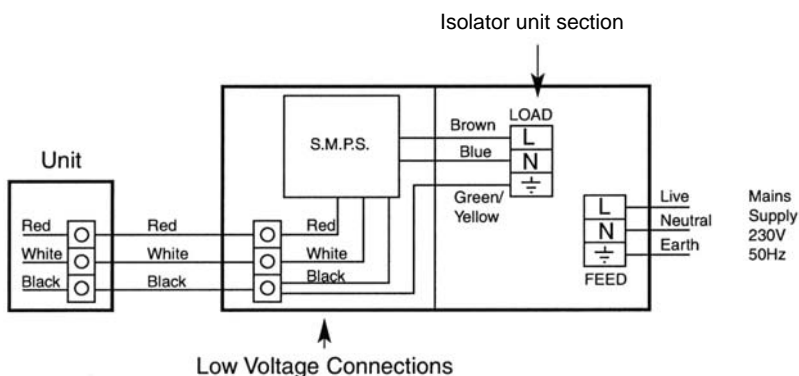

Fig.7
5. Remove one of the cable knockouts and feed the 3-core cable through the power supply enclosure (Fig. 7).
7. Connect the 5m cable supplied to the red, white and black low voltage supply via the terminal block. Route it via one of the exit holes (Fig. 7)